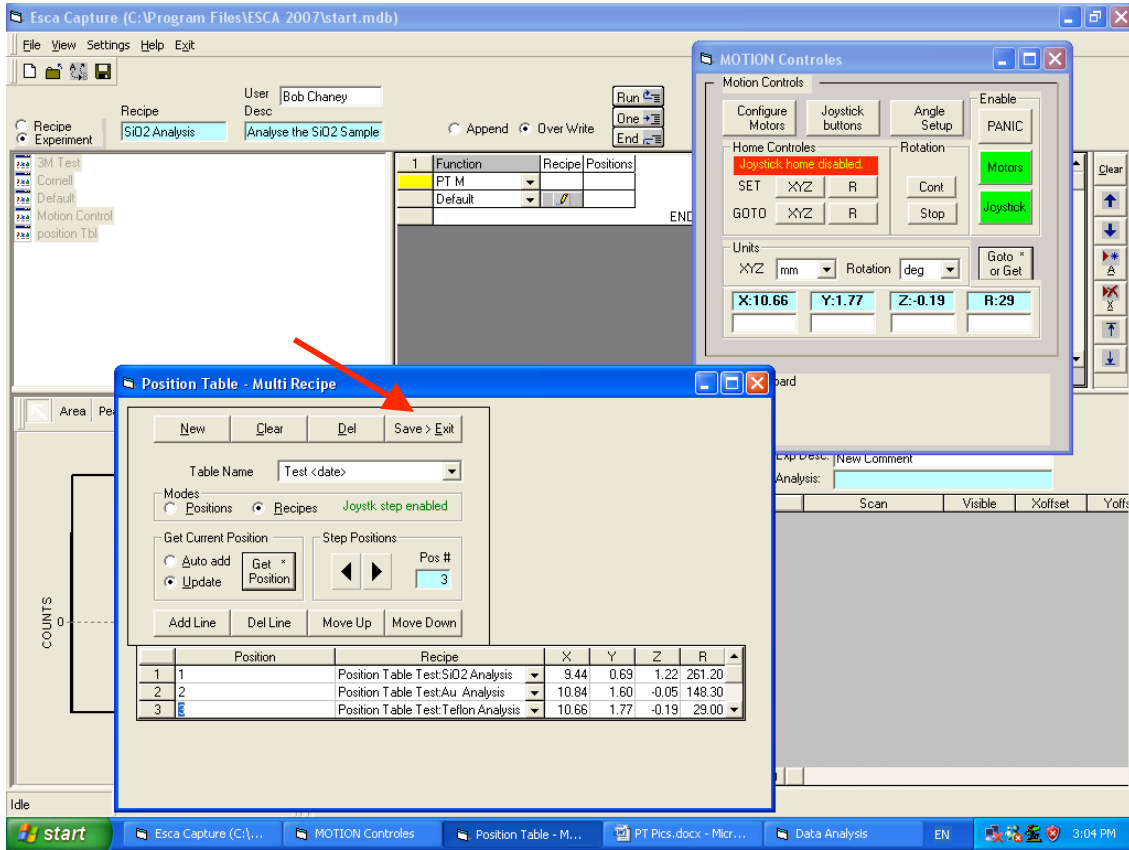

Figure 12. Save full position table and exit.
- 3.1 Following the insertion of each of the MRS recipes click the *Save > Exit* button to capture the full position table information (Fig. 12).